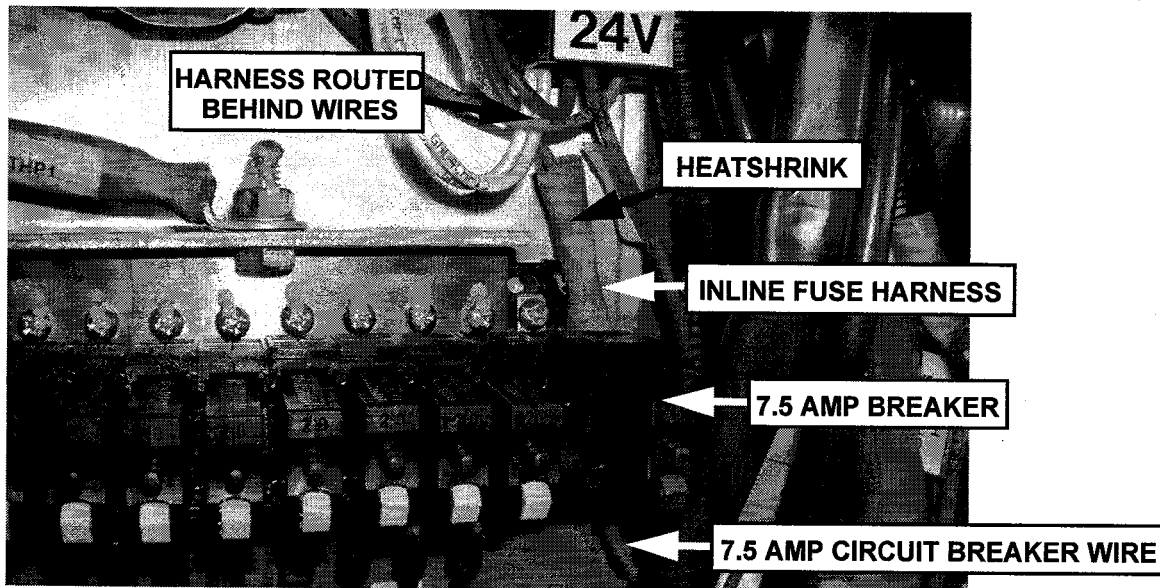

Figure 1-7
9. Route inline fuse harness **081009516** to the breaker bar. See **Figure 1-7**
Ensure inline fuse harness **081009516** is routed behind all wires. See **Figure 1-7**
10. Add two inches of heatshrink **BS-2611574** over the end of inline fuse harness **081009516**. See **Figure 1-7**
11. Install inline fuse harness **081009516** to the right most position of breaker bar. Torque mounting hardware to 12 in-lbs. Apply torque stripe. See **Figure 1-7**
13. Install 7.5 AMP circuit breaker to the right most position of breaker bar. See **Figure 1-7**
14. Install the lower 7.5 amp circuit breaker wire to the right most position of circuit breaker mounting area. See **Figure 1-7**